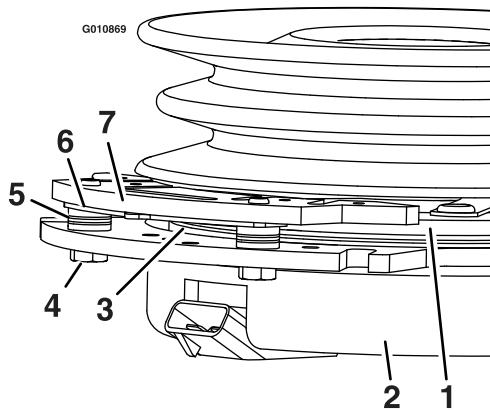

**Figure 67**
- Remove the dust cap from caster and tighten the locknut (Figure 67).
- Tighten the locknut until the spring washers are flat, and then back off a 1/4 turn to properly set the preload on the bearings (Figure 67).
**Important:** Make sure that the spring washers are installed correctly as shown in Figure 67.
5. Install the dust cap (Figure 67).